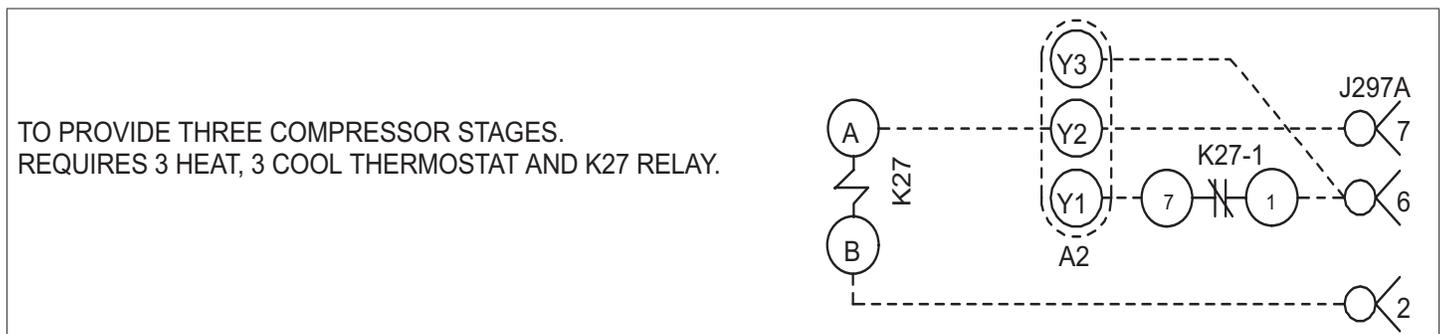

Figure 30. Third-Stage Cool (Parameter 111) Wiring
- **Option 3. Three Cooling Stages:** Cooling operation is shown in “Table 8. Thermostat Mode Operation (Three Cooling Stages Parameter 111)” on page 32; this option requires the use of a three-stage cool thermostat and a K27 relay. See wiring pictorial in “Figure 30. Third-Stage Cool (Parameter 111) Wiring” on page 31 and C section control wiring diagram.